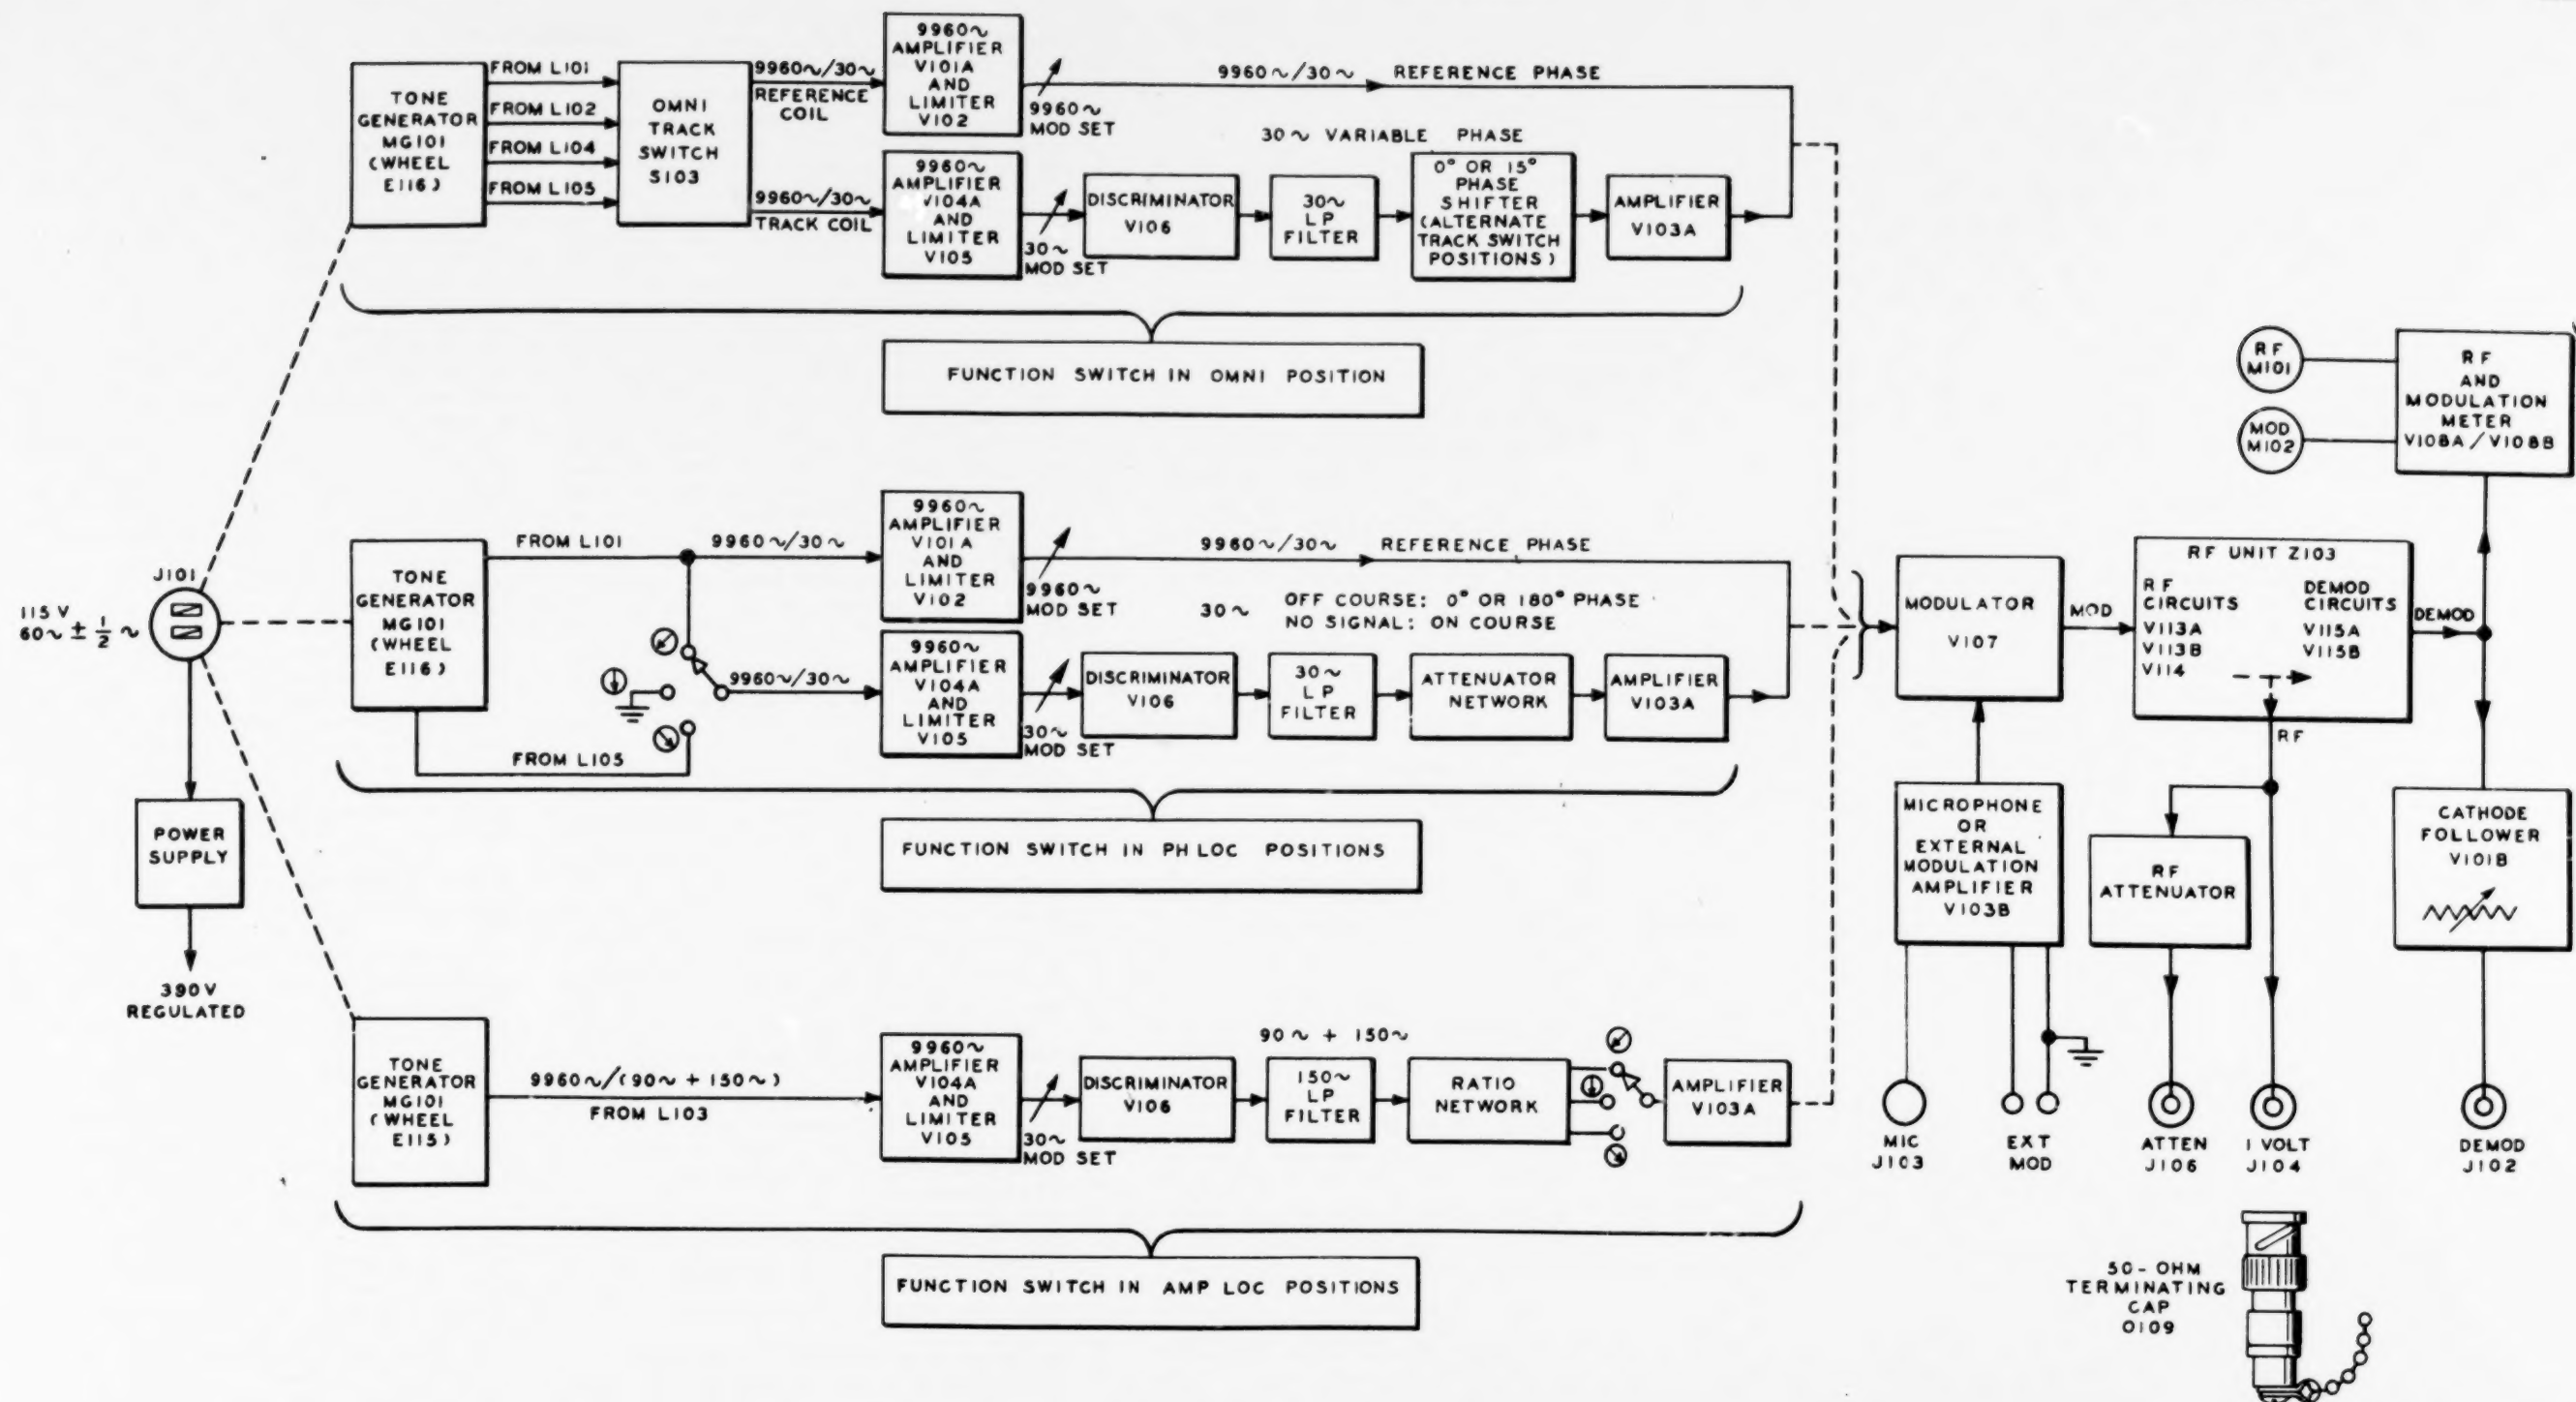

Figure 1-2. Signal Generator SG-66/ARM-5, Block Diagram
1-16. A ten-position switch, known as the "FUNCTION switch" determines the type of emission: omni, phase localizer, or amplitude localizer. The phase localizer and amplitude localizer functions each have three positions on this switch corresponding to "off course, needle right," "off course, needle left," and "on course" signal emissions; the omni function has a single position. In the block diagram, figure 1-2, the relationship of the various functional circuits of the signal generator is shown for each of the three possible types of emission. Though not shown in figure 1-2, the
1-18. OMNI SIGNAL CIRCUIT. As shown in section A of figure 1-2, the four 30-cycle tone wheel coils (L101, L102, L104, and L105) are connected to the OMNI TRACK switch S103. These coils are disposed about the tone wheel E116 at precise angular spacings of 0, 30, 120, and 180 degrees. The OMNI TRACK switch selects these coils in pairs in various combinations, and connects one to the input of the reference channel amplifier V101A and the other to the variable channel amplifier V104A. The output of the reference amplifier is clipped symmetrically by the twin-diode limiter V102 and applied to the modulator tube V107 as the reference-phase component of modulation. The output of V104A is clipped by a similar limiter V105, then discriminated. The resulting 30-cycle signal is passed through a 30-cycle filter for the elimination of harmonics and high-frequency components. It is then amplified by V103A and applied to the modulator as the variable-phase component of modulation. The discriminator connections are such that the 30-cycle output voltage is maximum when the frequency of the frequency-modulated input signal is minimum. By definition this corresponds to
a 180-degree phase difference between the reference and variable channel signals. Therefore, when the reference and variable channels are fed from the same pick-up coil, the reference and variable channels are 180 degrees out of phase corresponding to a track angle of 0 degrees. The phase relationship between the 30-cycle frequency modulation and the reference-phase component of modulation and the 30-cycle variable-phase component of modulation is determined by the particular pair of tone wheel coils selected by the OMNI TRACK switch. By selecting these coils in proper combination, the OMNI TRACK switch is capable of shifting the "track angle" through 360 degrees in twelve 30-degree steps. At intermediate (odd 15-degree) positions of the track switch an additional phase shift is introduced by the connection of an RC phase shifting circuit between the 30-cycle filter and the amplifier V103A. The OMNI TRACK switch is calibrated in ANGLE TO degrees, to simulate an omni transmitter. At a zero degree setting of the track switch, the phases of the reference and variable channel components are opposite, and the emitted signal is the same as that which would be received by an aircraft due south of an omni transmitter. A 90-degree setting provides modulation corresponding to the signal received due west of the omni station, and so forth. The modulation percentage of each of the modulation components is adjusted to the proper 30 per cent value by means of two potentiometers, one in each channel, immediately following the two limiter tubes V102 and V105. These panel controls are marked 30 ~ MOD and 9960 ~ MOD. Adjustments must be made with the FUNCTION switch set in the correspondingly marked SET positions (not shown in figure 1-2; see figure 2-1) which provide for separately connecting, each of the modulation components to the modulator.
1-19. PHASE LOCALIZER CIRCUIT. Phase localizer signals are the same in character as omni signals with the following exceptions: For an "on-course" indication, the 30-cycle component is zero; for "off course, needle right," the 30-cycle component is in phase with the reference modulation on the 9960-cycle subcarrier; and for "off course, needle left," the 30-cycle component is shifted 180 degrees from the reference modulation phase. As shown in section B of figure 1-2, the input for the reference phase of the simulated phase localizer signal is always taken from one coil (L101) associated with the tone wheel E116. For a simulated "needle center" (on course) signal, the input of the variable phase channel is grounded. The input of this variable phase channel is connected to the reference coil L101 for "needle left" signals, and to the diametrically opposite tone wheel coil L105 for "needle right" signals. In addition, in all PH LOC positions of the FUNCTION switch, a resistive attenuating network is switched into the variable phase channel to reduce the 30-cycle component of modulation from the normal omni value of 30 per cent to 7.5 per cent for off-course phase localizer test signals.
amplitude localizer tone wheel E115 is cut so as to provide a 9960-cycle signal frequency-modulated simultaneously at 90 cycles and 150 cycles. When the FUNCTION switch is set to any of the three AMP LOC positions, the input to the reference phase channel is disconnected from the tone generator and grounded, and L103, the amplitude localizer pick-up coil, is connected to the variable phase channel. (See figure 1-2.) Also, a 150-cycle low-pass filter is switched into the circuit in place of the 30-cycle filter in order to pass the 90-cycle and 150-cycle voltages produced by the discriminator, and to remove the higher-frequency components. The filter is followed by a ratio network, the function of which is to set the relative levels of the 90-cycle and 150-cycle components as required. When the FUNCTION switch is in the AMP LOC ① (needle center) position these voltages are equal and each provides 20 per cent modulation of the carrier. For the AMP LOC ② (needle left) and AMP LOC ③ (needle right) switch positions, the voltages are unbalanced to such an extent as to produce "3 dot" deflection, left or right, in a standardized localizer receiver. This corresponds to an increase of 2 db in one component and a decrease of 2 db in the other component.